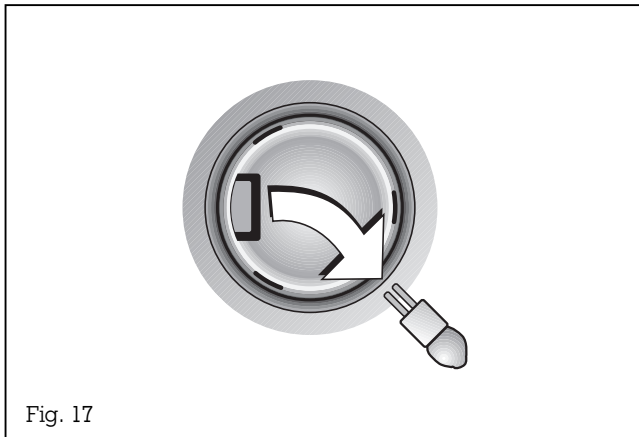

Fig. 17
- Pull out the lamp (Fig. 17).